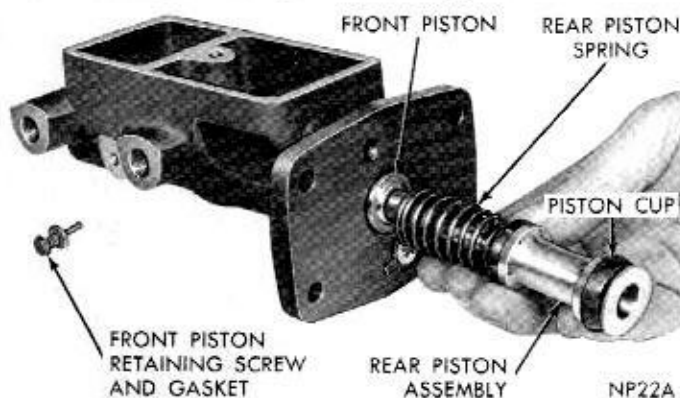

Fig. 6—Installing Rear Piston Assembly
(2) Center spring retainer of rear piston assembly over shoulder of front piston. Push piston assemblies into bore up to center piston cup. Carefully work cup into bore then push piston in up to rear cup. Carefully work lip of rear cup into bore, then push in on piston until seated (Fig. 6).
(3) Holding piston in seated position, move piston retainer over piston and tighten securely.